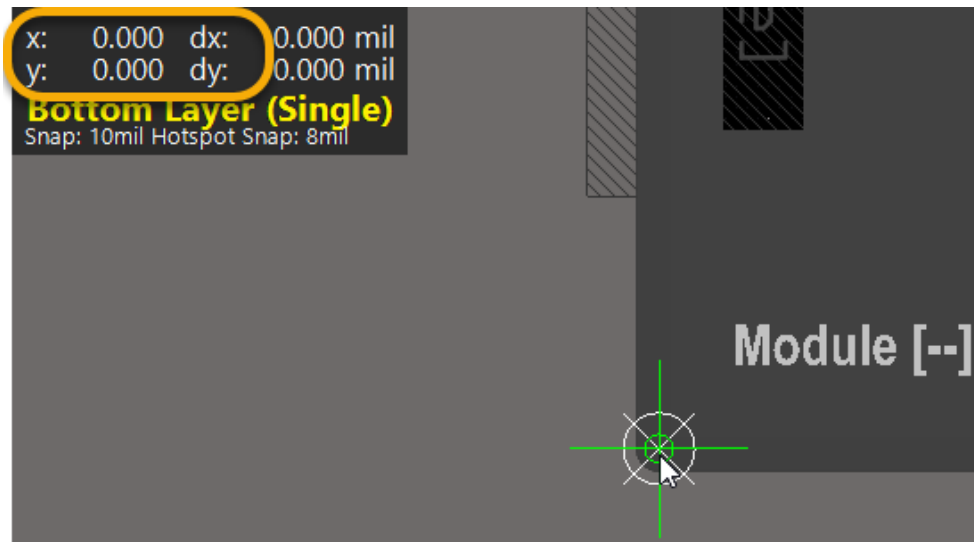

Figure 5. Heads-Up Display (HUD) showing (0,0) coordinates
22. Click on the board origin in the bottom left corner and the *HUD* should indicate the co-ordinates (0,0) as shown in Figure 5.